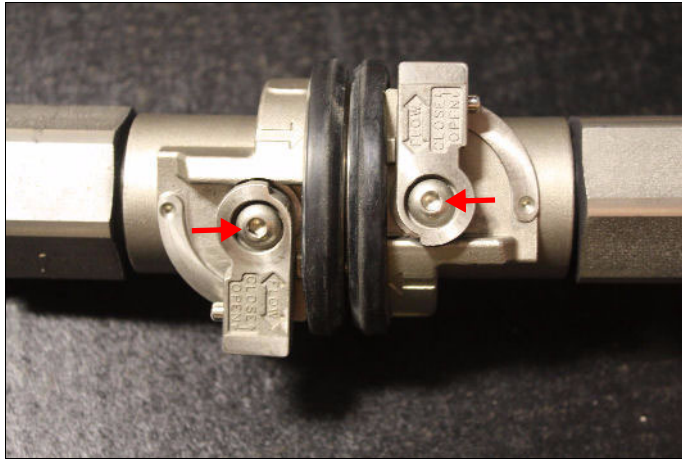

Figure 1-20 Coolant hose hex head alignment
3. To connect the rack hoses to the facility coolant hoses, align the hex head screws (see Figure 1-20 on page 17), and turn the connectors clockwise (as viewed from the
Figure 1-20 shows the alignment for the hex head screws.